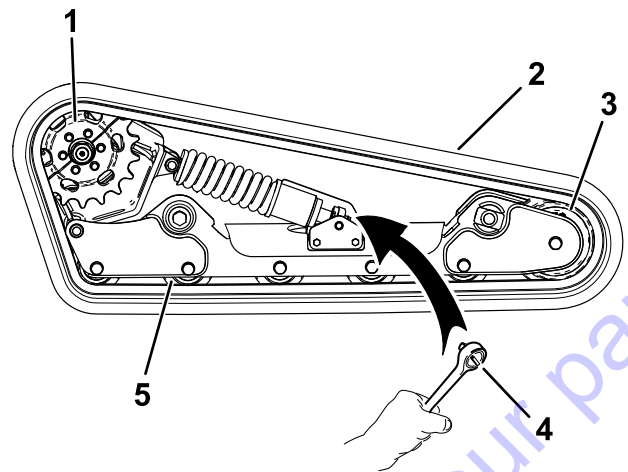

Figure 61
8. Using a 1/2-inch drive ratchet, release the drive tension by turning the tensioning screw clockwise (Figure 57 and Figure 61).
5. Road wheel (5)
9. Remove the 3 bolts securing the sprocket half that is not engaged with the track (Figure 61).
14. Wrap the new track around the front wheel, then wrap the track around the drive hub on the side without the sprocket (Figure 61).
15. Push the track under and between the road wheels and wrap it around the frame (Figure 61).